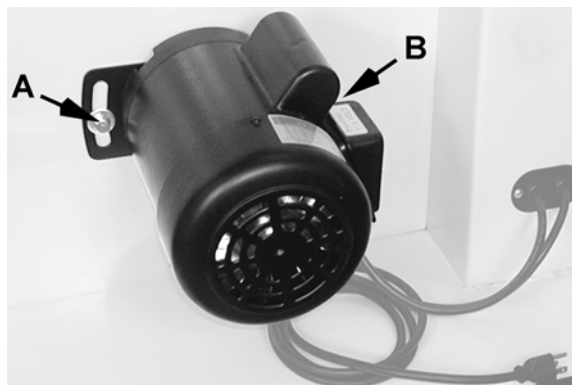

Figure 25
2. Release belt tension by loosening the two *hex cap screws* (A, B, Fig. 25). The pivot bolt (B) is not visible.
1. Release belt tension by loosening the two *hex cap screws* (A, B, Fig. 25). The pivot bolt (B) is not visible.